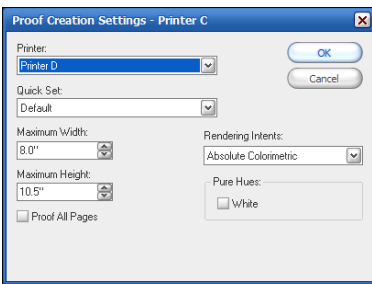

Figure 6—Configure Proofing
2. Click **Configure Proofing**. This opens the *Proof Creation Settings* dialog (see Figure 6).